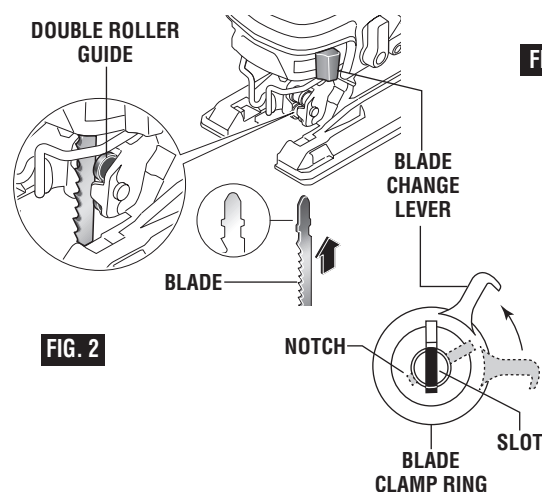

FIG. 2
1. To remove a previously-used blade, pull blade change lever until blade ejects (Fig. 2).
2. Pull the blade change lever to the point that the notch on the blade clamp's ring line up with the slot in the center of the clamp (Fig. 2).